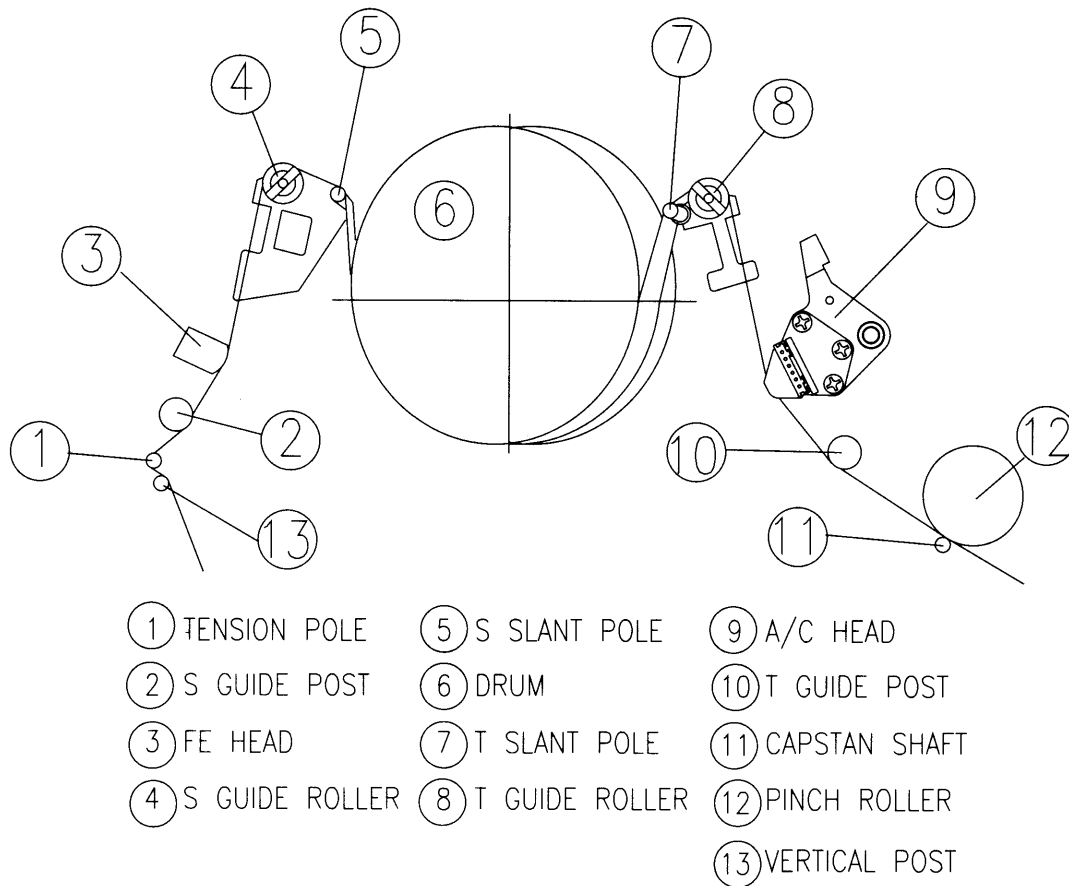

Fig. 5-1 THE SCHEMATIC DIAGRAM OF TAPE TRANSPORTING SYSTEM
When the parts as shown in Fig. 5-1 are replaced, the TAPE TRANSPORTING SYSTEM has changed. To prevent this, it is essential to know thoroughly and observe the following INSTRUCTIONS.
- Play back a T-120 Tape and check the running condition of the TAPE at the lower flanges of the T GUIDE POST ASS'Y (II) in Fig. 5-1.